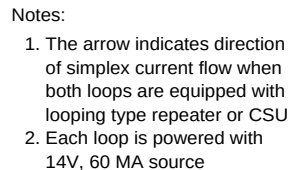

Figure 10-1. T1EXT Span Powering
- The T1EXT does not include any components for primary or secondary lightning protection/surge protection or power cross. Primary protection (Lucent Technologies' protector unit 4B3EW or equivalent) is always required for tip/ring lines exposed to lightning and surges either in cabinet or as lines enter a building. An external secondary lightning and surge protection assembly (ED-8C783) must be collocated with the FiberReach shelf for all outside plant applications. Refer to Figure 10-1 for T1EXT span powering.